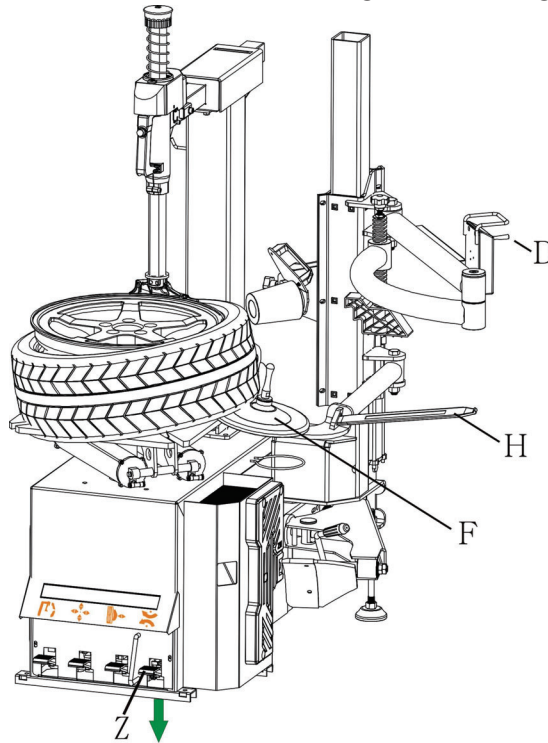

Fig.12
- Rotate roller arm F to make tire lifting roller under tire, and make sure it is close to the tire other than touch rim as Fig.12.
- Depress the pedal Z to turn the turntable, meanwhile turn switch handle upward to rise slowly to detach the bottom bead with the tire lifting roller F as Fig.12.